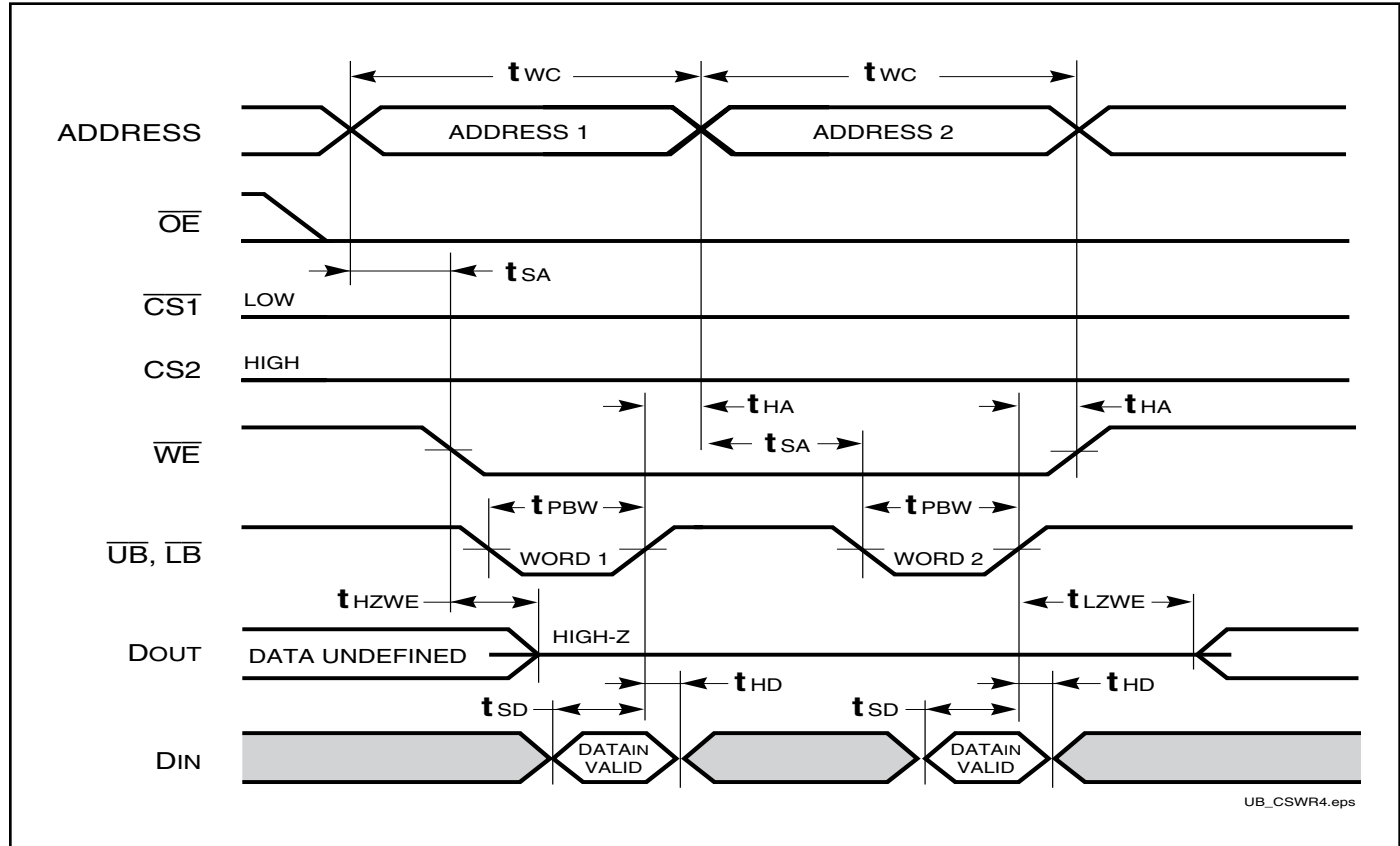
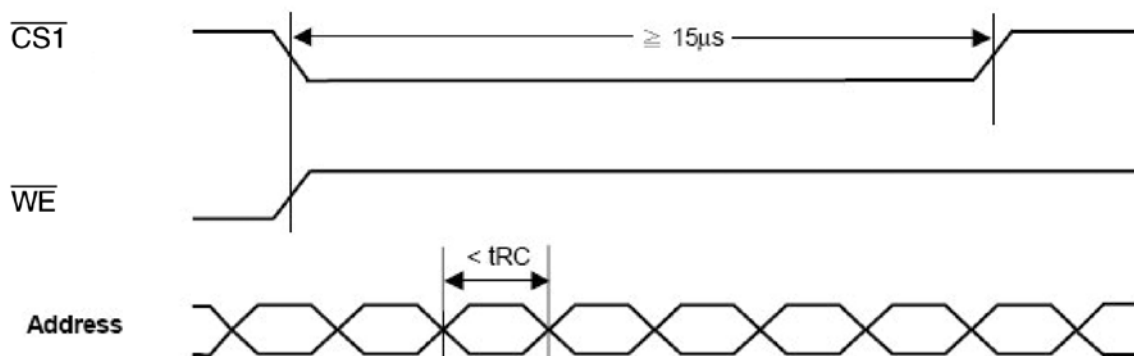

Figure 1: Avoidable Timing
Figure 2:
- Test conditions assume signal transition times of 5 ns or less, timing reference levels of 0.9V/1.5V, input pulse levels of 0.4 to V_{DD}-0.2V/0.4V to V_{DD}-0.3V and output loading specified in Figure 1.
- Tested with the load in Figure 2. Transition is measured ± 100 mV from steady-state voltage. Not 100% tested.
Please avoid address change for less than t_{RC} during the cycle time longer than $15\mu s$ (Figure 1). Figure 2 & 3 provide work around solution for this issue.